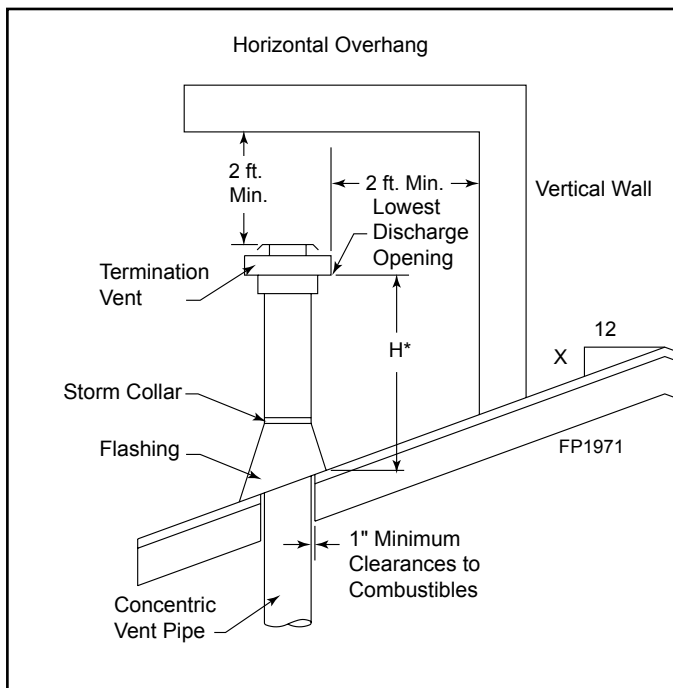

Figure 5.17 Minimum Chimney Clearance
- For the minimum height of the vent above the highest point of penetration through the roof refer to *Page 24*, *Figure 5.17*.
6. Continue to add pipe sections until the height of the vent cap meets the minimum building code requirements as shown in Figure 5.17.